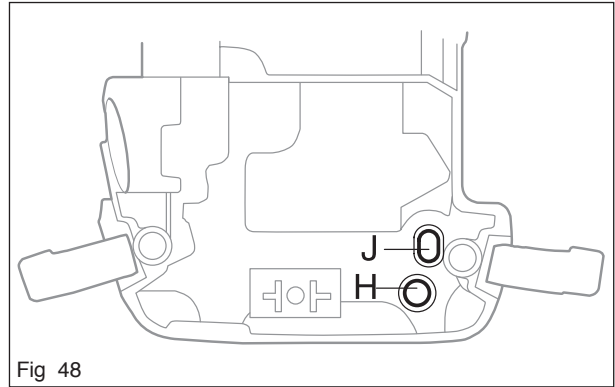

Fig 48
2. Lift the engine unit above the tank unit and insert the fuel hose (in J), return hose (in H) in the bottom of the carburettor compartment (see figure 48).